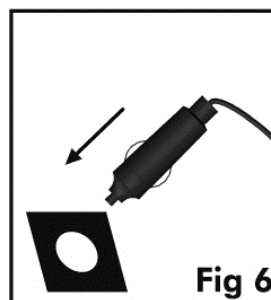

Fig 6
4. Connect the adapter into the DC socket in your car (See Fig 6). When ready to use, power car on. Always operate vehicle outdoors.